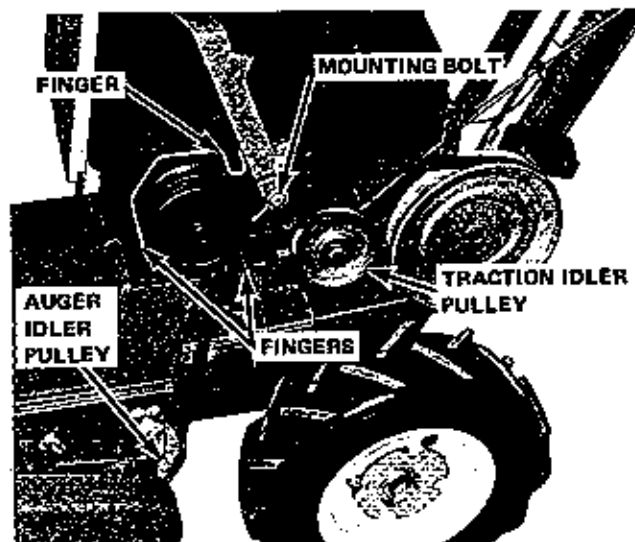

FIGURE 11
1. Remove the belt guard at the left side of the engine by unscrewing the wing bolts. Inspect the engine pulley belt stop fingers to be sure they do not touch the belts when the idler pulleys are engaged. Engage the auger drive idler pulley by pulling the blower control handle up. Engage the traction drive idler pulley by squeezing the Touch-O-Matic lever. Loosen the stop mounting bolts to adjust finger position. There must be 1/16 inch clearance visible between the belts and the fingers. See Figure 11